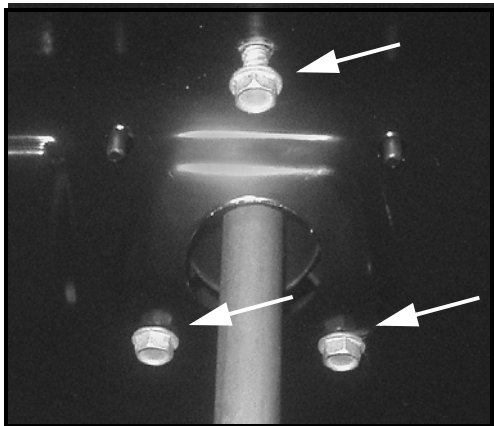

FIGURE 5
13. From the back side of the dash assembly, using a 3/8" socket and ratchet, remove the three screws retaining the plastic steering support to the dash assembly. Slide the steering support up off of the steering shaft. See Figure 5.
33. Install the plastic steering support onto the steering shaft and secure to the dash assembly with the three screws removed in Step 13. Refer to Figure 5.